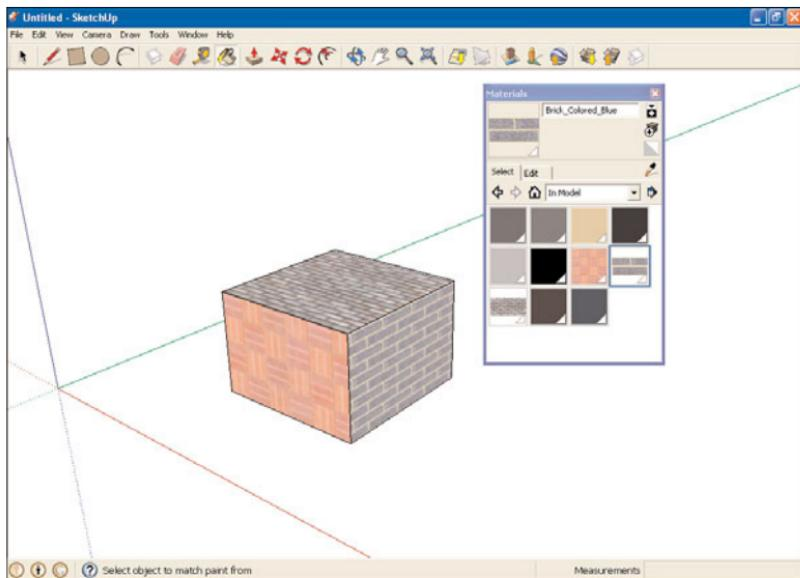

FIGURE 7.10 The textures in our drawing.
11. Click the **Home** button in the materials browser. This will display all the textures currently in the drawing, as you can see in Figure 7.10.